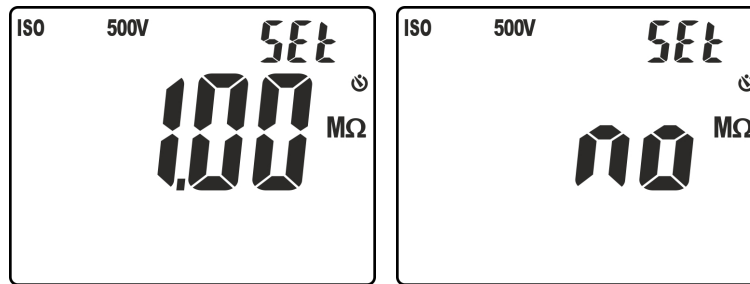

Fig. 16: Setting the limit threshold for insulation measurement
5. Press keys  $\nabla/\text{☼}$  or  $\blacktriangle/\text{ZERO}$  to select the value among the options: **0.10M $\Omega$** , **0.230M $\Omega$** , **0.50M $\Omega$** , **1.00M $\Omega$** , **100M $\Omega$** , **no**. Option “no” indicates that no threshold was set (see Fig. 16).
4. Press and hold key **VTEST/LIM** (>2s) to set the **minimum** limit threshold for measurement. The symbol "Set" flashes on the display. Press keys **▼/⚡** or **▲/ZERO** to select the value among the options: **0.10MΩ, 0.230MΩ, 0.50MΩ, 1.00MΩ, 100MΩ, no**. Option "no" indicates that no threshold was set (see Fig. 16).